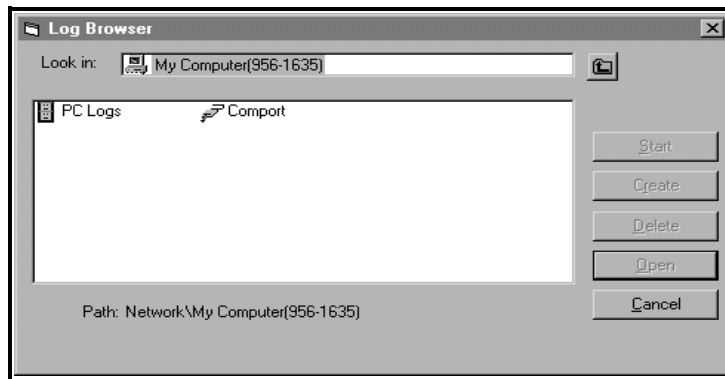

Figure 3-6: Log Type Selection
2. Double click on the *computer name* to advance to the dialog box shown in Figure 3-6 on page 3-8.